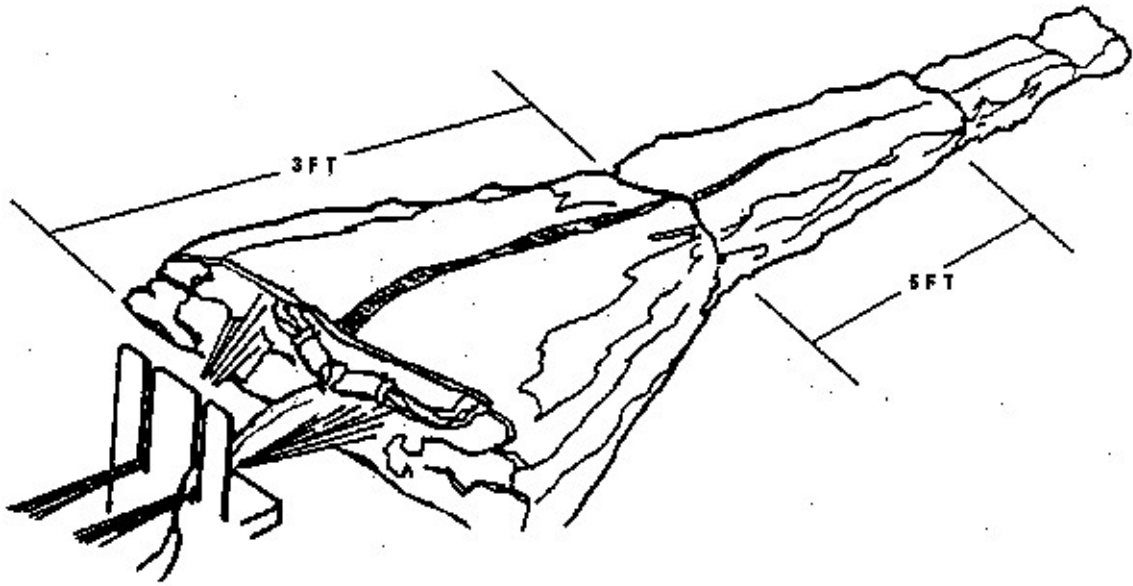

Figure 3-30
- g. Place the centerline on top of the right suspension line group so that the running end loop of the centerline is located 6 to 9 inches below the 3/4-inch suspension clevis. (See Figure 3-30)